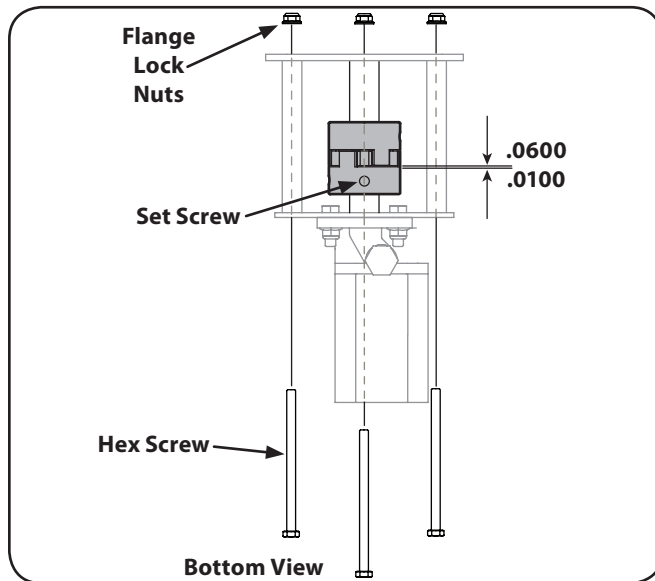

Figure 7-1
2. Remove the three flange lock nuts and hex screws that secure the pump to the coupling shield. Two flange lock nuts and hex screws are at the bottom corners and one is in the top center. See Fig. 7-1.
11. Set .0100" to .0600" of a clearance/gap between the nylon "spider" and the engine coupling half by sliding a feeler gauge or matchbook cover between the nylon "spider" and the engine coupling half and moving the pump coupling half as needed. Secure the pump coupling half with the set screw. See Fig. 7-1.